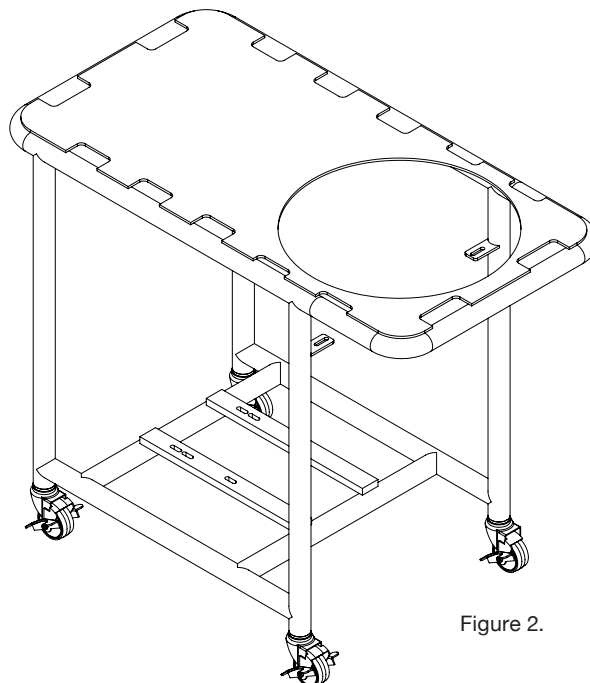

Figure 2.
6b. Check that the QDB table (T) has installed the wheels (W) and is clear for assembling the QIM (Q) on it. If the wheels are not installed, then install them. Assemble the QIM to the motor (M). Follow the instructions described on sections 2 thru 5 to do this. **Figure 2.**